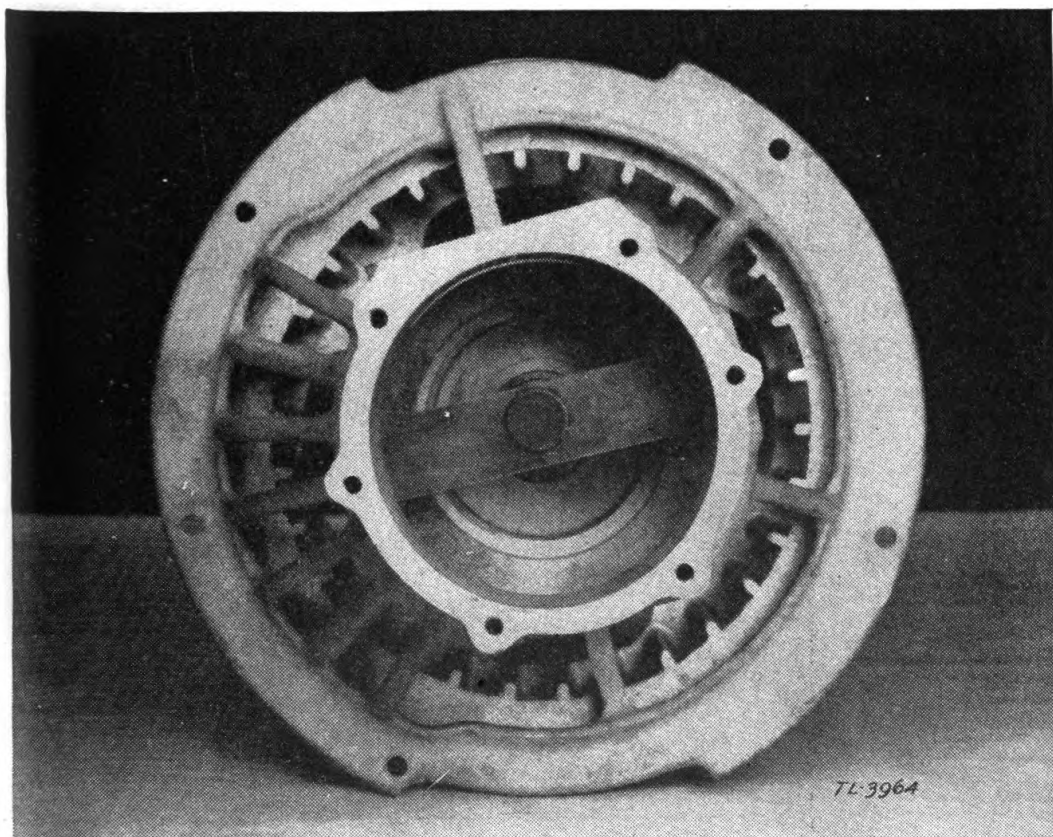

FIGURE 16.—Flywheel.
(b) Place the flywheel remover (573) so that the cross bar fits into the recess inside the crankcase and the bronze collar passes through openings in the crankcase and comes in contact with the crankshaft spacer (fig. 16).